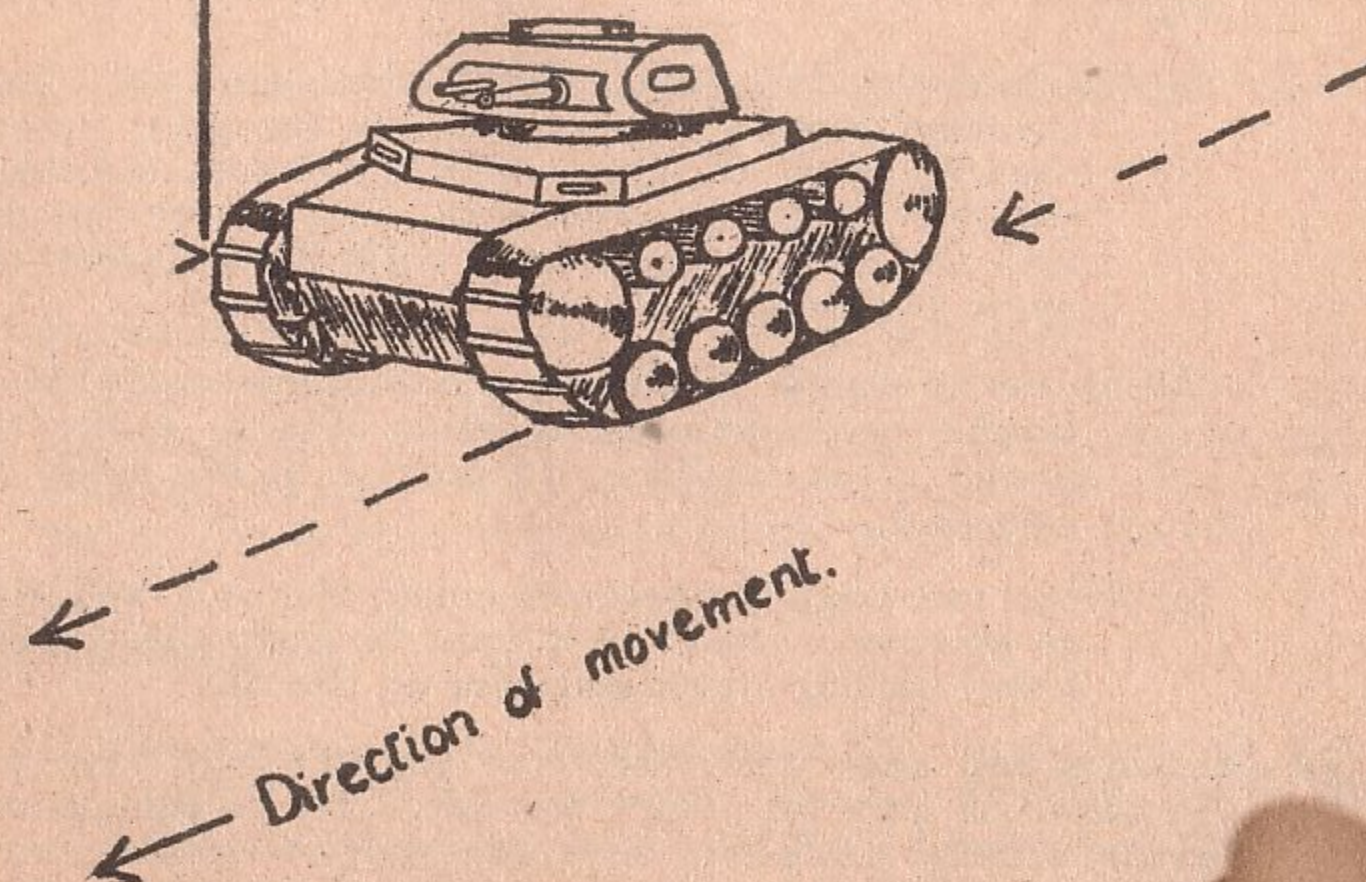

Fig. 6. Correct aim diagonally crossing tank.
- iii. When moving diagonally across the front, aim at the front edge (see Fig. 6).